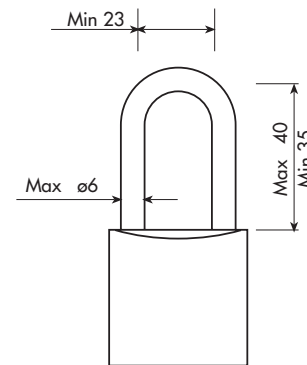

Figure 1.29 Safety lock dimension drawing
- Access to the earthing-switch drive and the switching device racking mechanism is provided with padlocking facilities (on request) to prevent unwarranted operation of the switchgear when safety locks (refer to figure 1.29) are fitted.